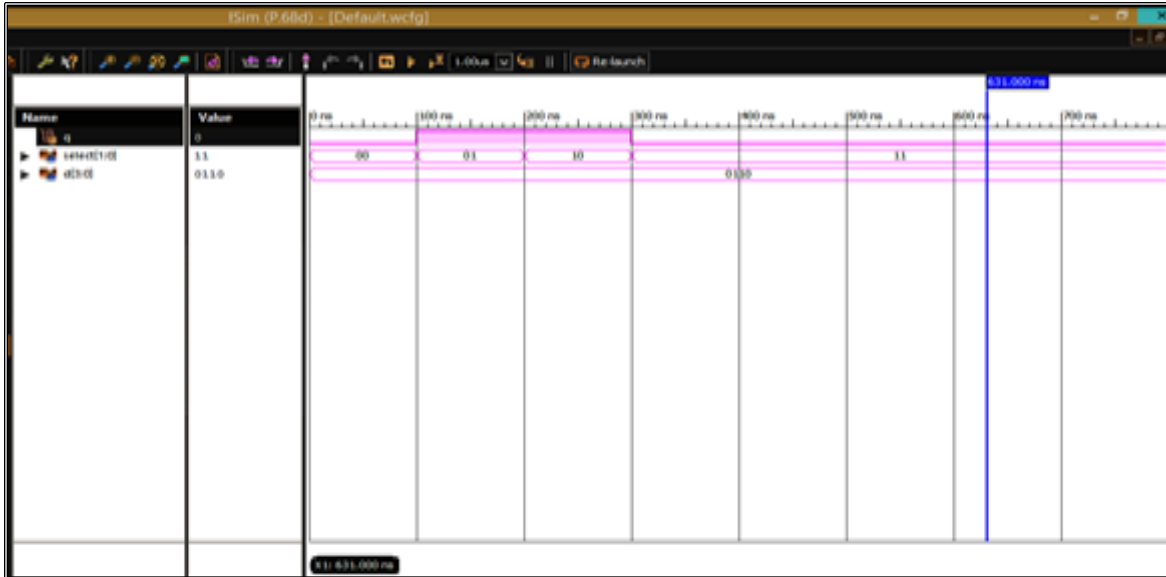

Fig 2.19: Simulation Waveform
18. The simulated waveform for the “Mux” is shown in the Fig 2.19. The simulation is successful here as the output is verified for the multiplexer.